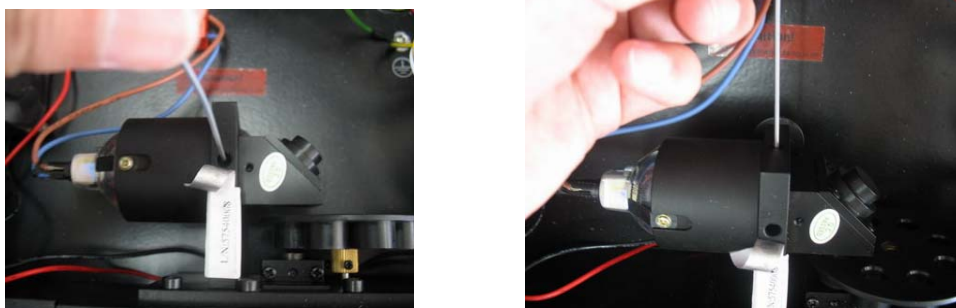

Figure 3-20
- 2、 Use hex wrench M3 to loosen the two fixing screws, as shown in figure 3-20.